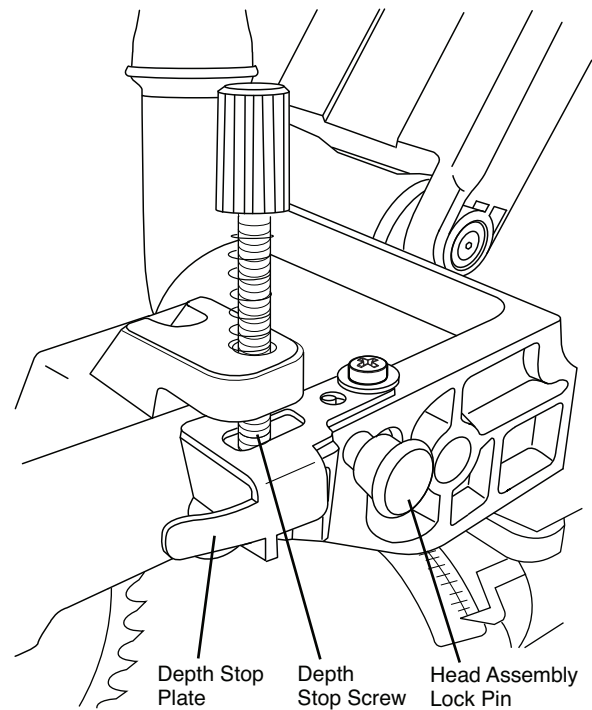

Figure 16
1. When making normal full-depth cuts, push the depth stop plate in toward the saw head (see Figure 16). This will allow the depth stop screw to pass through the hole in the plate.